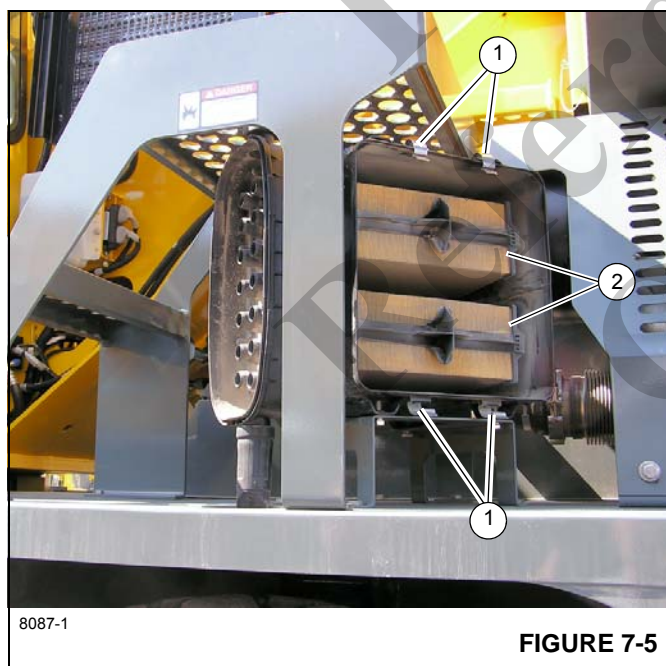

FIGURE 7-5
1. Lift the clips (1) (Figure 7-5) securing the cover to the air cleaner body and remove the cover.
2. Remove primary filter (2) (Figure 7-5) from the air cleaner and inspect for foreign material and marks of dust.
6. Place the cover back on the air cleaner housing and secure with clips (1).